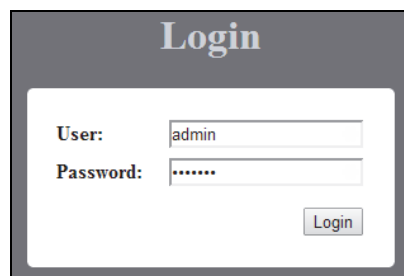

Figure A-9. X1 and e150 Web iSite Login Page
1. Using a Web browser, connect to the satellite router to lock and log on as admin. See Figure A-9.